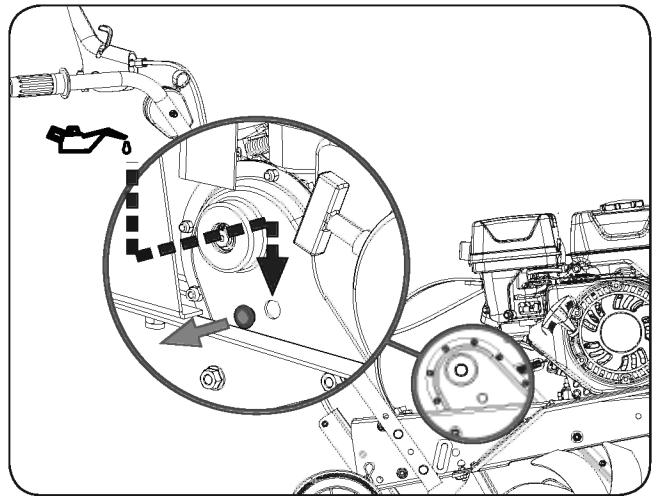

Figure 14
2. Remove the grease fitting screw and air vent screw to fill the worm gear housing through the lower grease fitting hole until the grease begins to come out from the upper air vent hole. (See **Figure 14**)